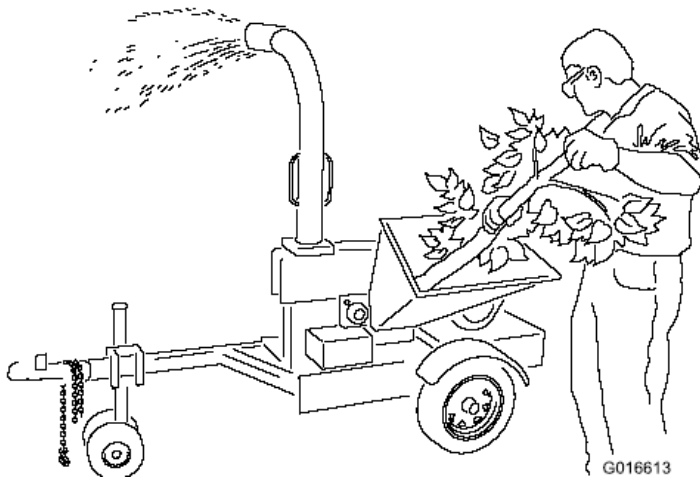

Figure 15
- Make sure you are standing in the safe operating area, as shown in pictures (Figure 15 and 16).
- Overloading the hopper will cause the rotor speed to decrease. If you hear the engine RPM decreasing, stop feeding material into the hopper until the engine has returned to full speed (Figure 15).